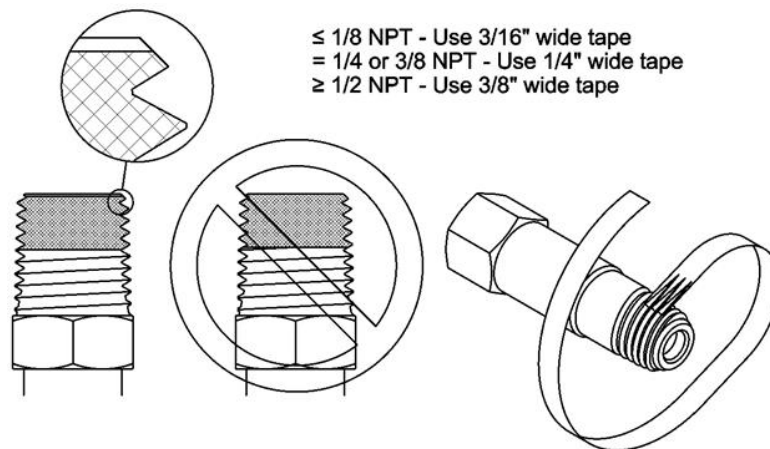

Figure 6 - Pictorial View of Tape Seal
- c. Be sure that all fittings are secure and leak tight. PTFE tape must be used on pipe threads. See Figure 6.
Use an open-end wrench, not a pipe wrench, to install accessories to the AutoSwitch system. **ALWAYS hold the bulkhead fitting with a wrench when installing the accessories to the AutoSwitch system. Do not allow the bulkhead fitting to turn; otherwise, connections inside the box may be loosened.** NPT connections require the use of PTFE tape on the threads to make a gas tight seal (See Figure 6.). CONCOA uses PTFE tape on all of its NPT connections. Follow these rules when using PTFE tape.
- Start the PTFE tape on the first thread leaving a slight section of the chamfer exposed as shown in Fig. 6. Make sure the tape does not overlap the end of the fitting.